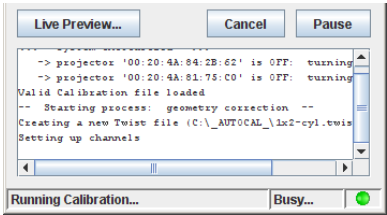

Figure 4-28 Run Calibration Script Box
- 5. The script box on the AutoCal window (**Figure 4-28**) runs each time a calibration file is saved and run. If the calibration file is incorrect, the script box will display the reason for the failure (i.e., no camera enabled).